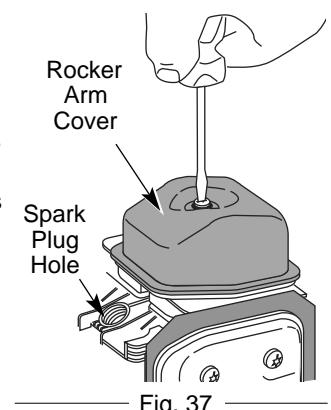

Fig. 37
7. Clean dirt from around the rocker arm cover. Remove the screw holding the rocker arm cover with a large flat blade screwdriver or Torx T-25 bit (Fig. 37). Remove the rocker arm cover and gasket.
- ¥ The piston is at the top of its travel while looking in the spark plug hole (Fig. 37)